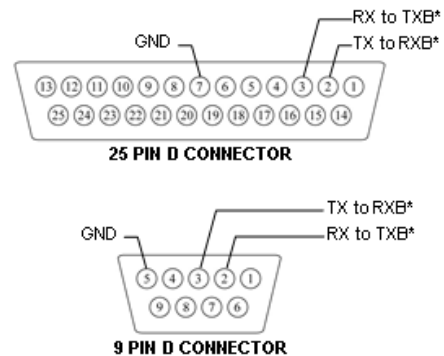

Figure 5.0
14. Prepare the proper ATG connection for RS-232 (see Figure 5.0).